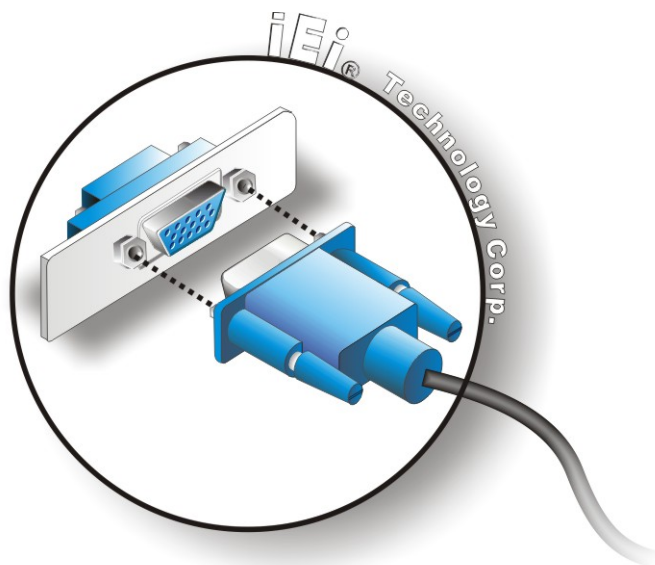

Figure 3-16: VGA Connector
- Step 3: Insert the VGA connector** Once the connectors are properly aligned with the insert the male connector from the VGA screen into the female connector on the TANK-101B/BW. See **Figure 3-16**.